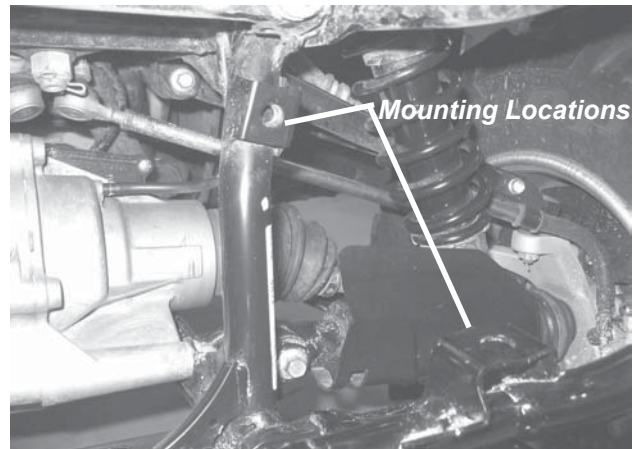

Figure 9
9. Locate the front mounting locations on the front frame tubes of the Grizzly. (figure 9)